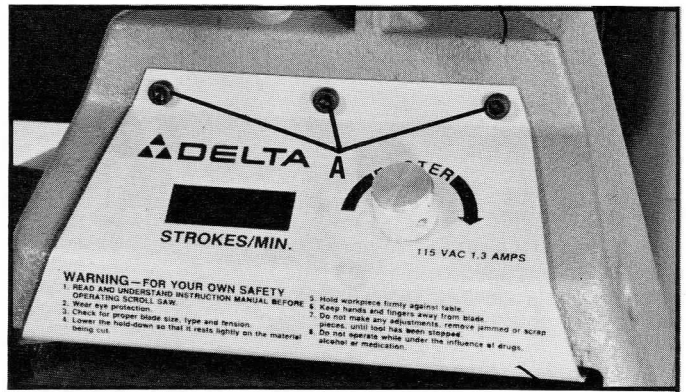

Fig. 35
2. Remove three screws (A) Fig. 35.